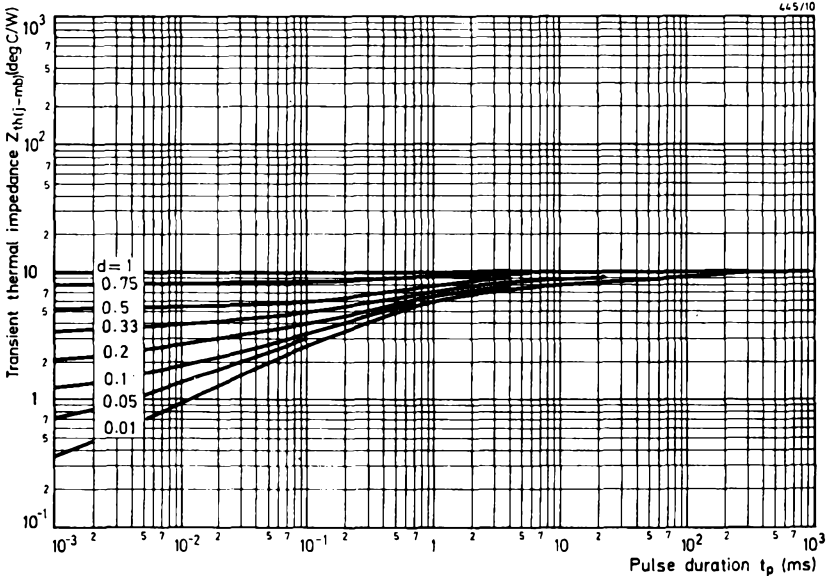
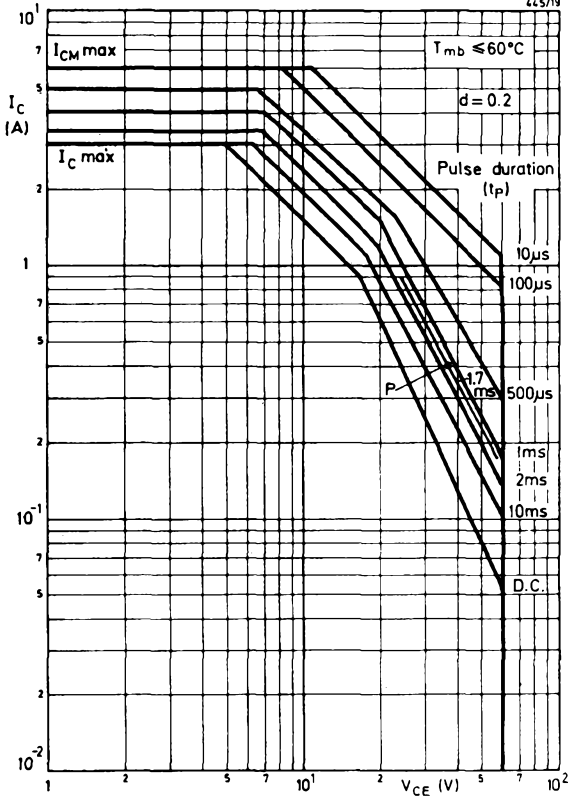

Fig. 2—Typical thermal impedance curves at various duty cycles
Fig. 4 —Typical SOAR family for $d = 0.2$ (20% duty cycle)
which is low at high collector-emitter voltages and higher at low voltages. Three loci for critical current values are shown on the diagram; these represent d.c., pulse, and short pulse operation. The extension of the second-breakdown locus for pulse operation is dependent on the pulse duration t_p , and also, to a lesser extent, on the duty cycle d (see Figs. 2 and 3). Thus the greatest extension is permissible with single-shot pulses ($d = 0.01$) of short duration, say $10\mu s$. (The value $d = 0.01$ can be considered as single-shot because there is ample time for cooling between power pulses).
In general, the data provides SOAR curves for pulse durations in multiples of 1, 2, 5, and 10, starting at pulse durations in the region 10 to 50 μ s. The families of curves are plotted at duty cycles of 0.01 (single-shot) 0.1, 0.2, 0.5, and 1.0 (d.c.). The transient thermal impedance curves are also included so that the operating mounting-base temperature can be calculated. Typical SOAR data curves for duty cycles of 0.2, 0.5 are illustrated in Figs. 4 and 5.
The procedure for constructing a SOAR for one specific set of conditions is described with reference to the curves shown in Figs. 4 and 5, and to the transient thermal impedance curves in Fig. 2.
Where $Z_{th(td)}$ is the thermal impedance for pulse duration t at duty cycle d , and $Z_{th(to)}$ is the thermal impedance for pulse duration t at duty cycle $d = 0.01$ (from Fig. 2).
Suppose the application had required an I_{CM} of 400mA instead of 300mA. In this case the point P on Fig. 4 would be given. Point P is outside the 2ms area which indicates that the condition may be unacceptable. Thus a closer approximation to the true conditions is necessary.
- 2) If point P is outside the 1.7ms area, then determine the 1.7ms area on the family of curves for $d = 0.2$ (Fig. 4). A further linear interpolation between the two 1.7ms areas is then needed to approximate to the 1.7ms SOAR at duty cycle of 0.37.